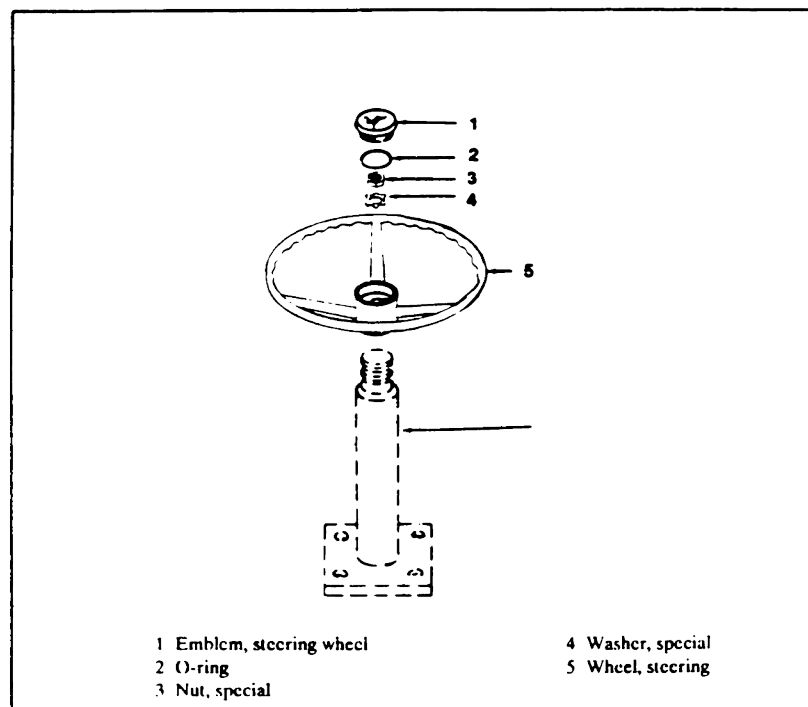

FIGURE 63. STEERING WHEEL REMOVAL
Step 2. Remove the steering wheel. First, remove the steering wheel emblem, O-ring, nut, and washer (Figure 63). Now, lift the steering wheel from the steering column. You may have to tap the bottom of the wheel with a rubber hammer to break it free. If the wheel still will not break free, use a penetrating oil around the steering column and steering wheel and again try to break it loose. If this does not work, attach a wheel puller to the steering wheel and remove it.
Step 6. Place the steering wheel on the steering column (Figure 63). Place a washer over the extruding end of the steering column. Place a nut on the threads of the extruding end of steering column and torque the nut to 50 foot-pounds. Place the emblem on top of the steering wheel and press it into position.